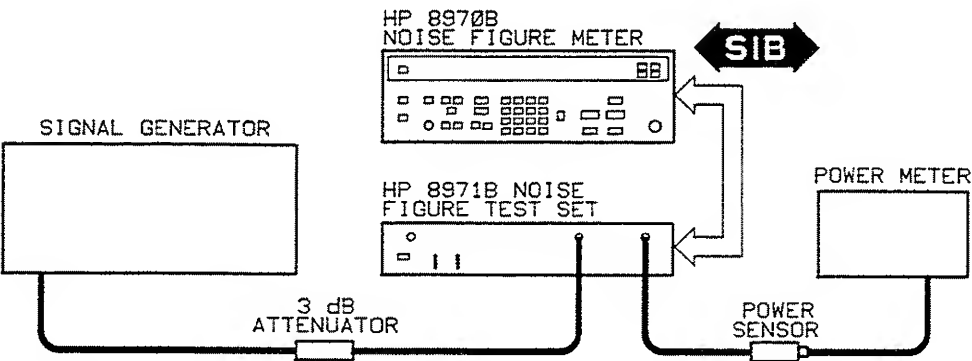

Figure 4-13. Gain Test Setup SSB1
10. Connect the IF OUTPUT of the Noise Figure Test Set to the power meter. The test should now be configured as shown in Figure 4-13.